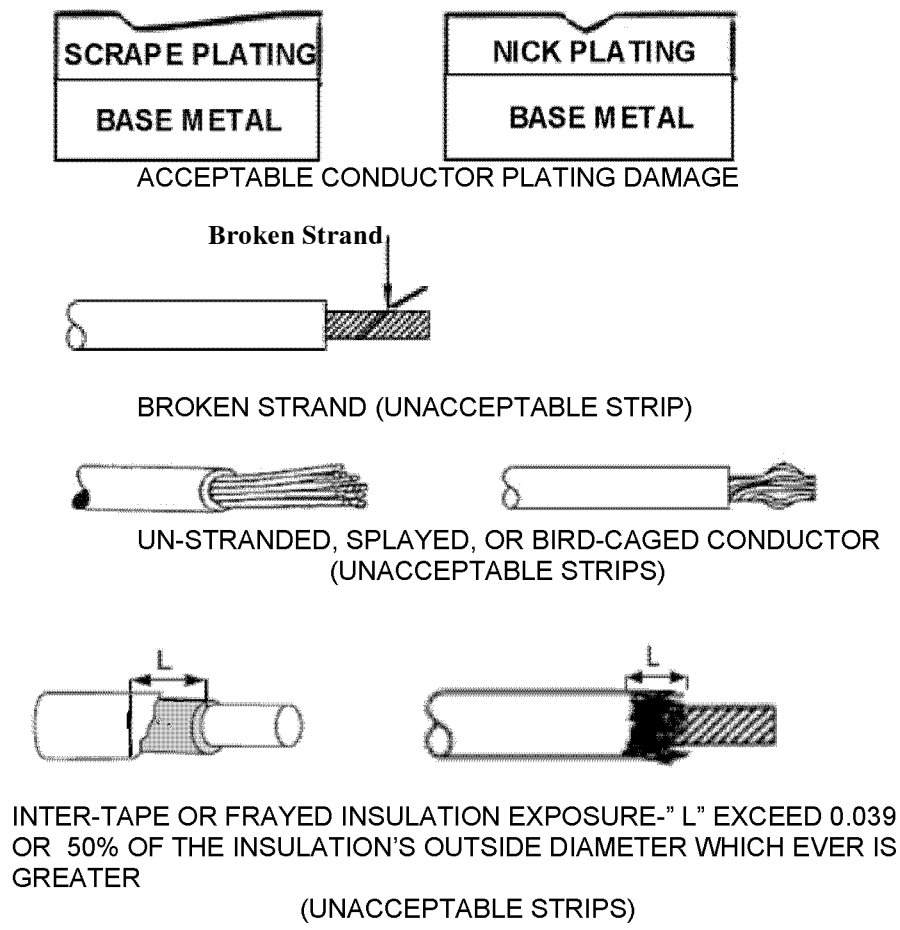

Figure 2. Unacceptable Stripped Wire Conditions
- G. Inspect wire for broken or nicked strands (see Table 5) and frayed or ragged insulation. Restrip wire if necessary (see Figure 2).
e. Ensure that insulation is cut clean with no frayed edges and trim if necessary (see Figure 2).
- a. Visually inspect the wire and determine if any of the following conditions exist (see Figure 2).
- (1). Nicked or cut strands (see Table 5).
- (2). Frayed or inter-tape insulation exposure.
- (3). Broken wire strands (see Table 5)
c. Release handles slightly to remove the wire from the stripper. Assure the strands are twisted together in the normal direction of lay with no broken strands (see Figure 2).